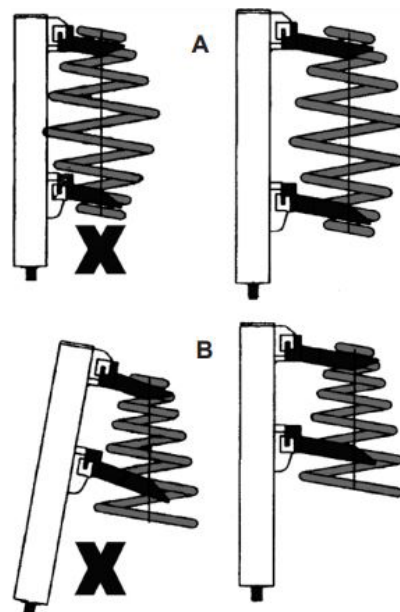
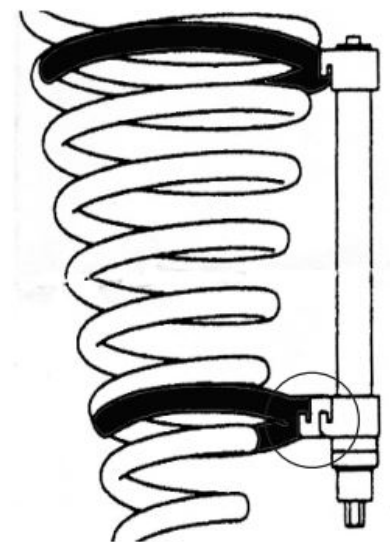

Fig. 2
Fig. 3
- Use the extension block if necessary (Fig.3) in order to keep the spring and compressor body parallel.
- Place the spring strut compressor onto the spring and make sure the spring sits correctly between the safety lips (6) and the outer rib (7) so that it cannot slide out during compression.
- Ensure the jaws and body are aligned correctly. (Fig.2 and 3).